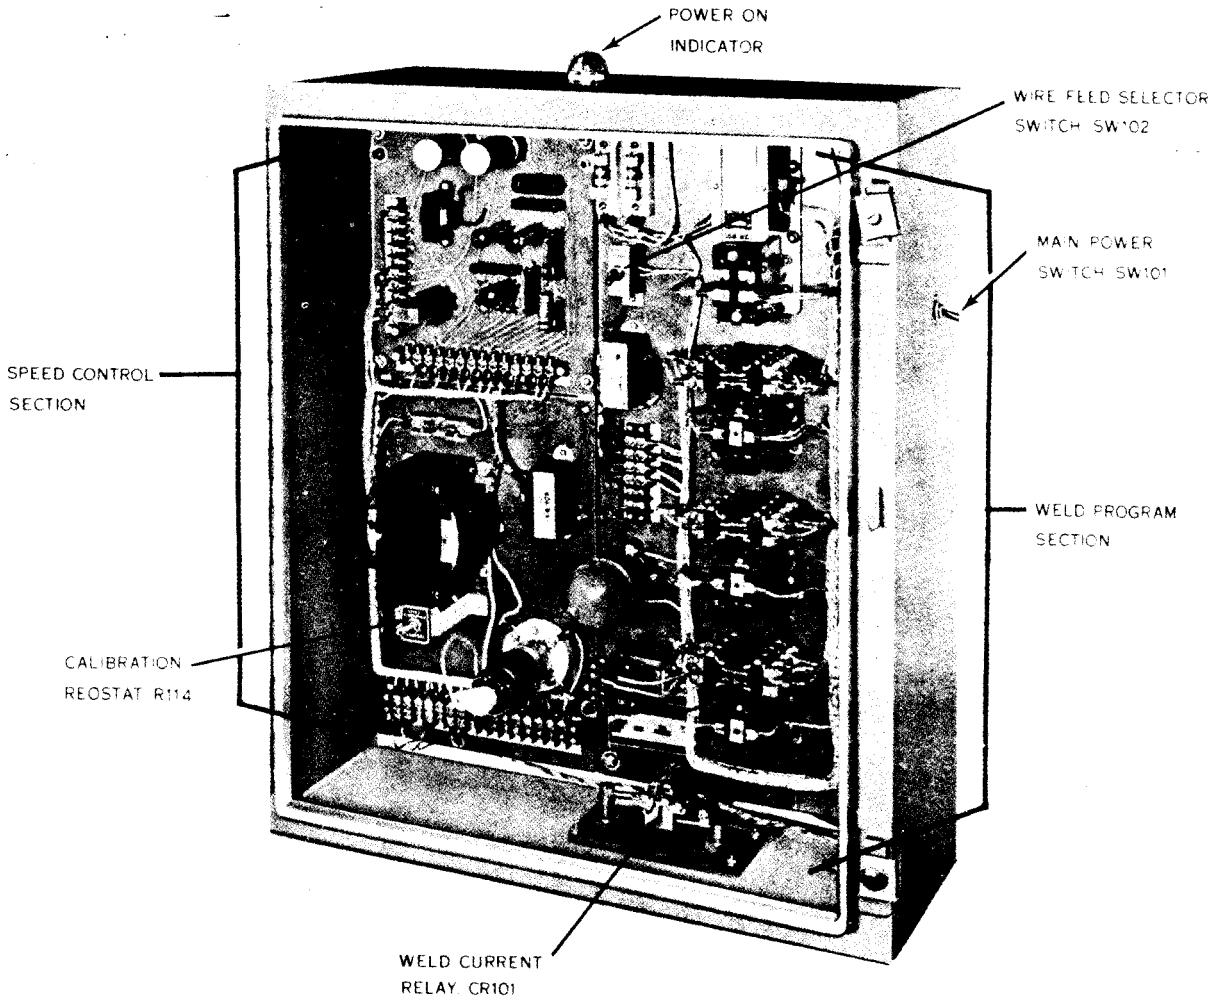
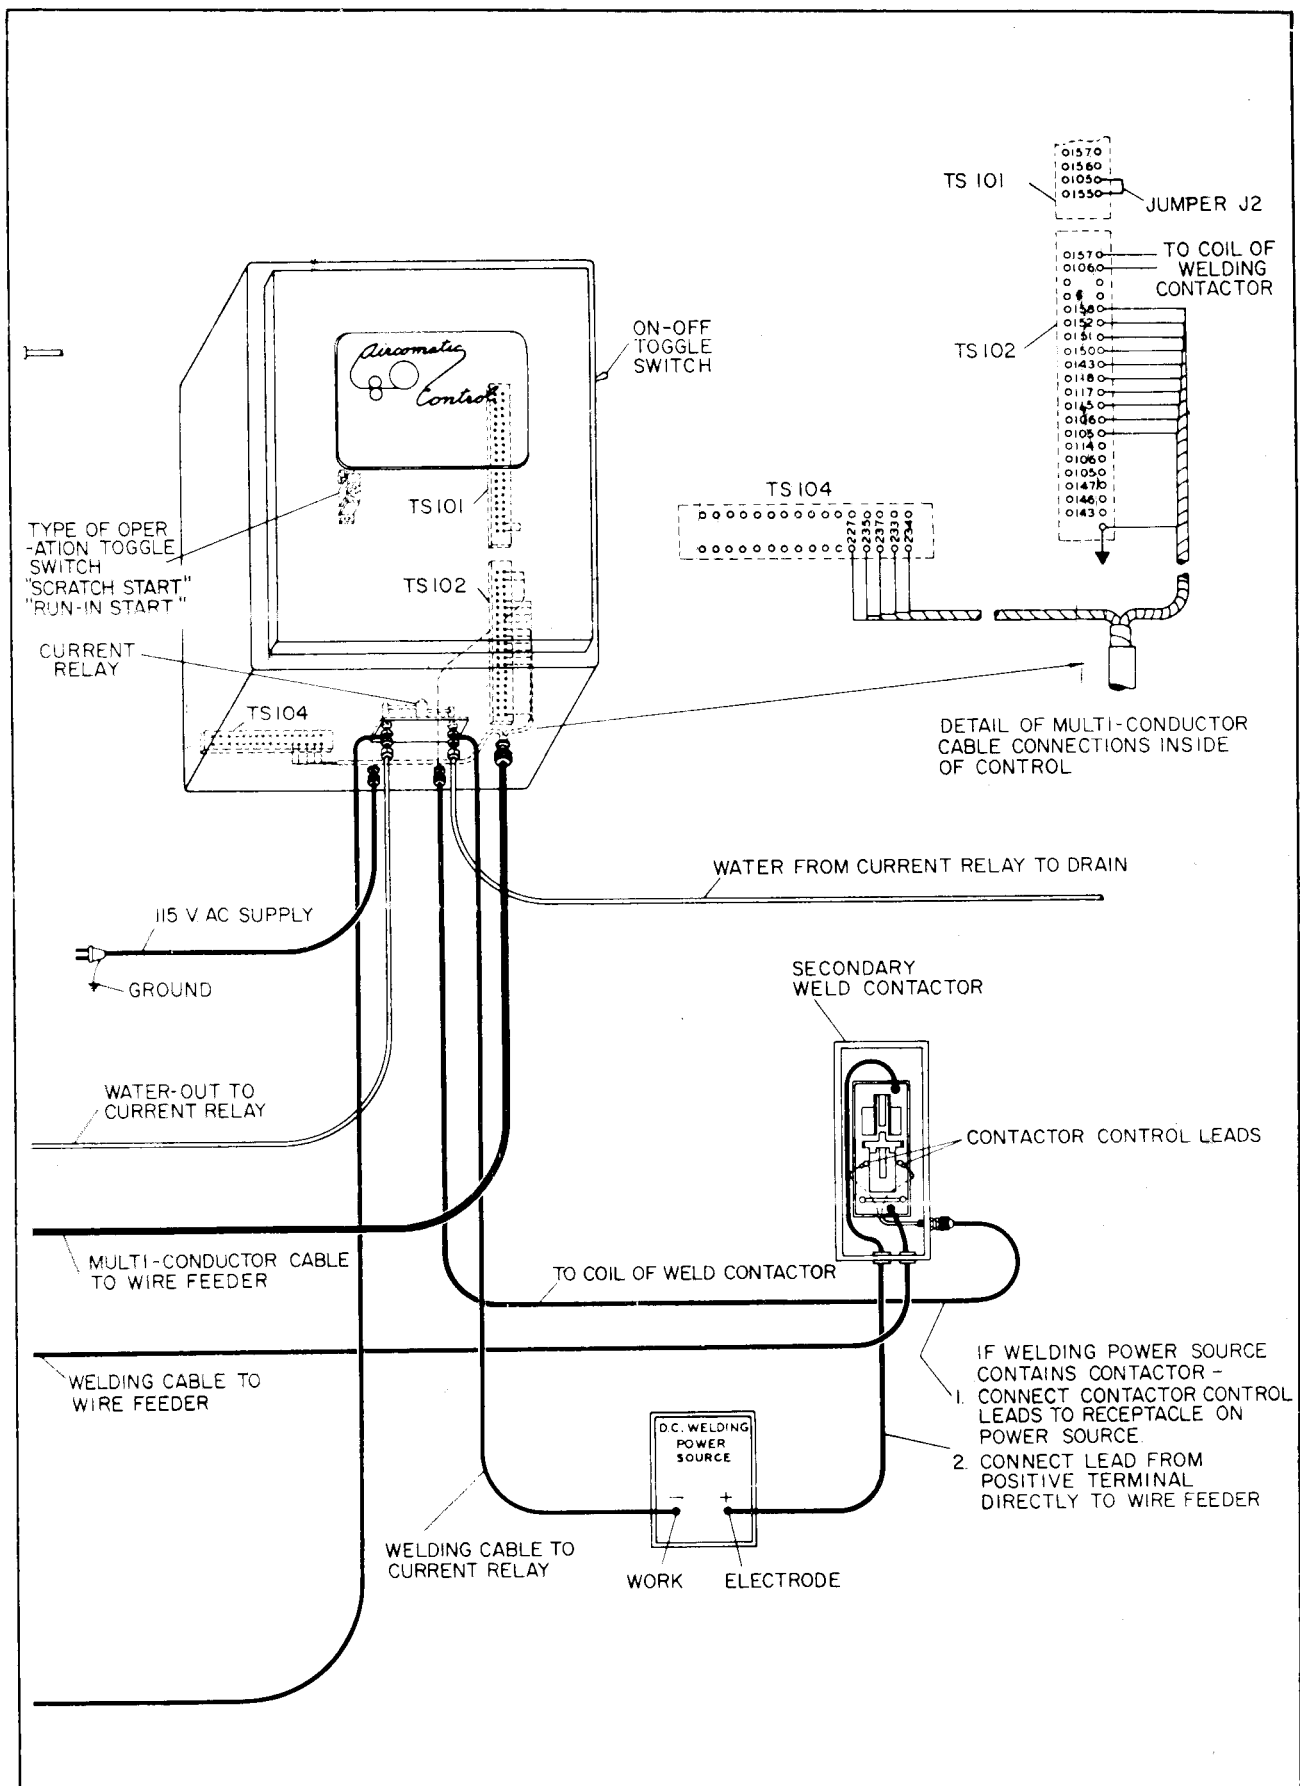

Fig. 4 Model AHC-B Control (Inside View)
Fig. 5 Interconnection Diagram
After making sure that the main power switch (Fig. 4) is OFF, connect Control in accordance with interconnection diagram (Fig. 5) as follows:
- b. Turn main power switch (Fig. 4) OFF.
- a. Turn main power switch (SW101) (Fig. 4) OFF.
To shut down Control, turn power switch (Fig. 4) OFF.